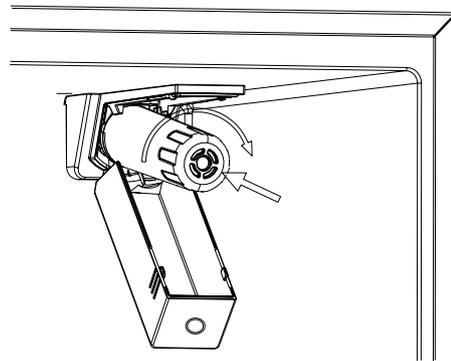

Figure 2
3. Push the new filter into the housing and rotate clockwise until secure (*Figure 2*).
- To install, remove the water filter as outlined in Figure 2 above, insert the plug into the housing, rotate clockwise until snug, and then re-secure the filter cover.